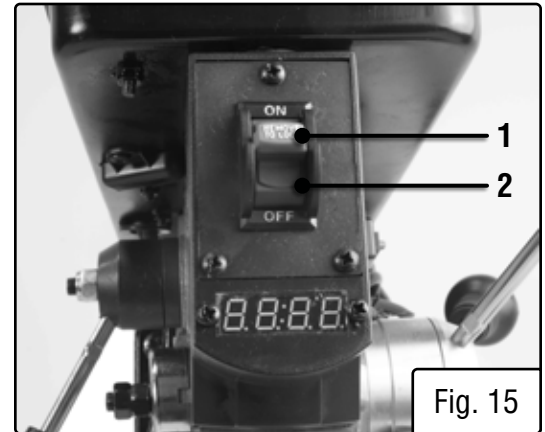

Fig. 15
DRILL PRESS ON/OFF SWITCH (FIG. 15)
1. To turn the drill press ON, insert the yellow safety key (Fig. 15 - 1) into the switch housing (Fig. 15 - 2). As a safety feature, the switch cannot be turned ON without the safety key.
4. To lock the switch in the OFF position, remove the safety key (Fig. 15 - 1) from the switch. Store the safety key in a safe place.